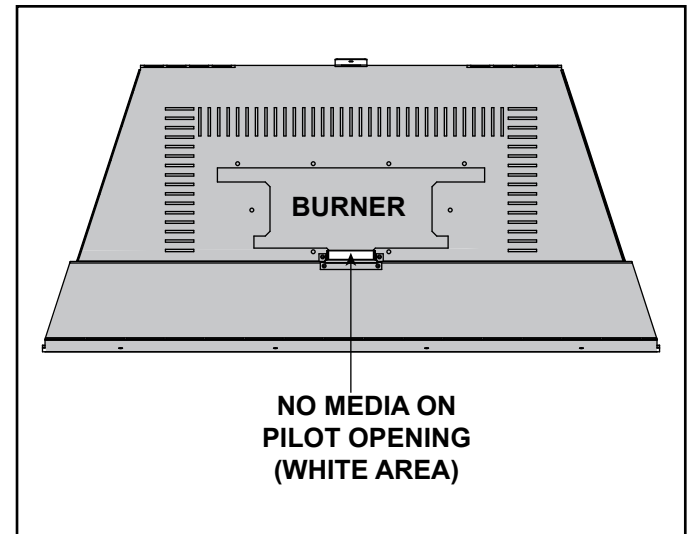

Figure 11.8 Placement of Media
2. The media can only be placed in the shaded areas as shown in Figure 11.8 and Figure 11.9.
3. Do not apply media over the pilot opening. See Figure 11.8 and Figure 11.9.